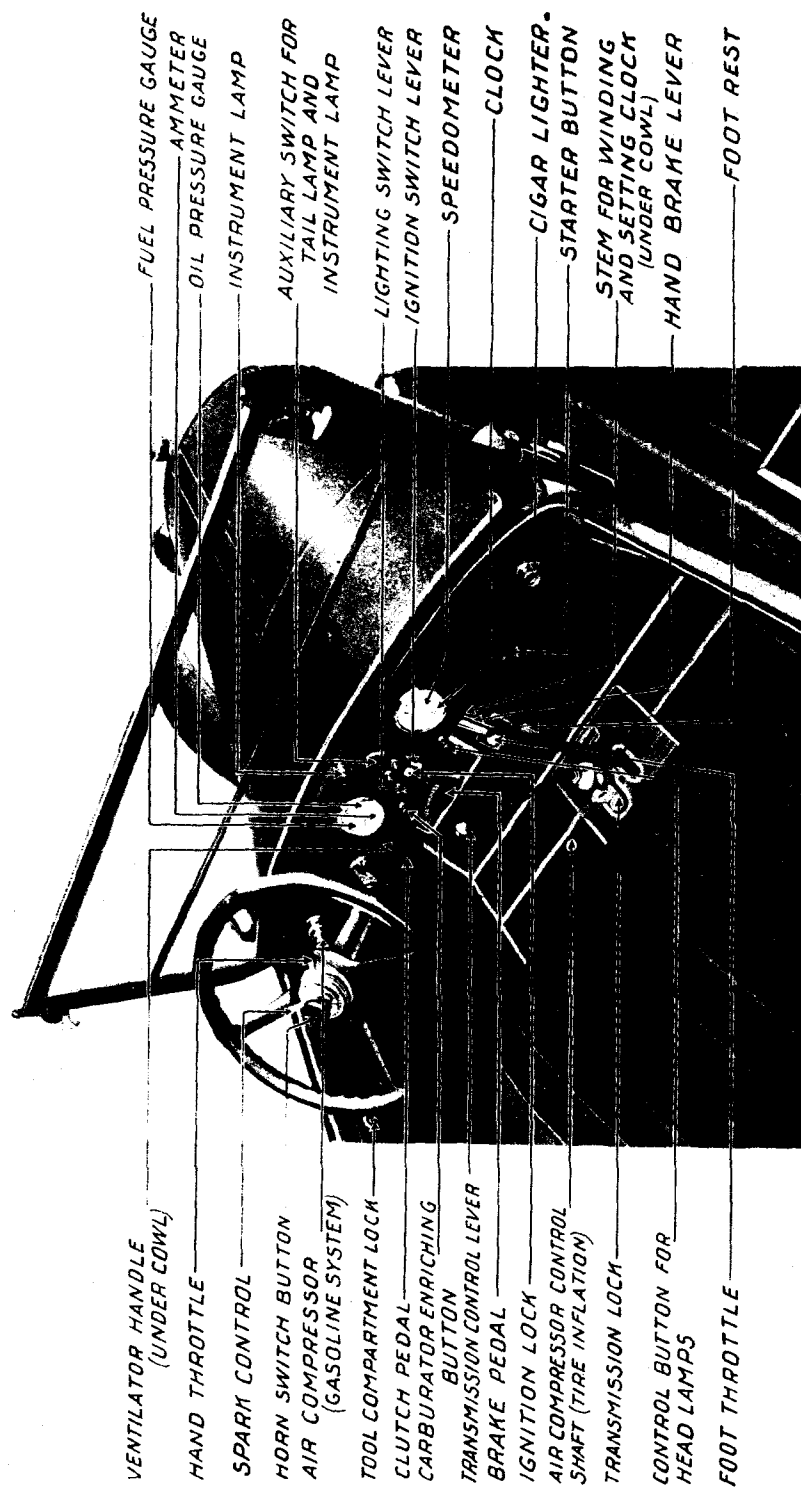

Fig. 1. Instruments, Control Levers and Pedals.
1. First make certain that the transmission control lever is in the neutral position and that the hand brake is applied, (see Figure 1.)
Lubricating oil is fed under pressure to the main and connecting rod bearings of the engine (see under "Engine Lubrication," page 32.) The pressure of the oil is indicated by the pressure gauge on the instrument board. (See Fig. 1.)
*Caution: Do not attempt to shift from neutral to any gear, or from one gear to any other without first disengaging the main engine clutch by pushing and holding down the clutch pedal (see Figure 1.)*